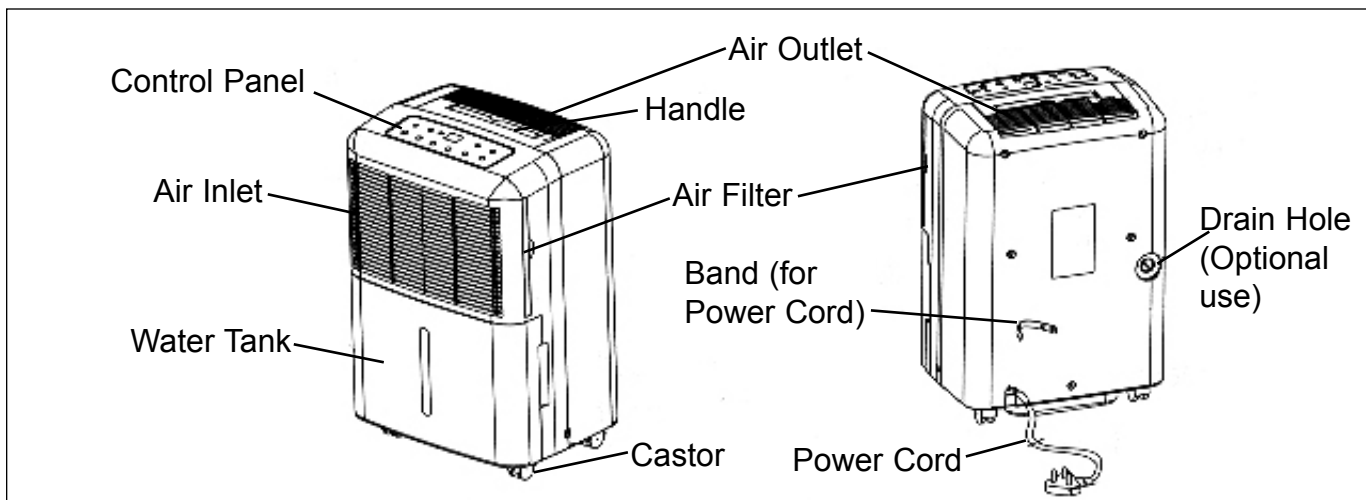
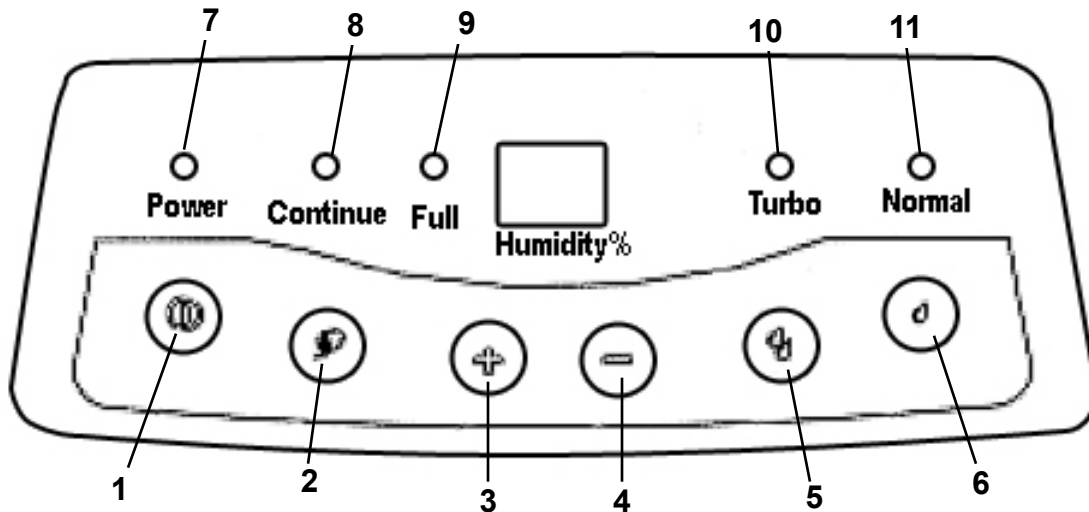

Figure 2: TT-40P-DH Product Description
Figure 3: Control Panel
dehumidifying mode with the factory setting of 60% relative humidity (RH). Pressing the Humidity + or - Button will change the humidity setting (see Figure 3 on Page 4).
1. Water will drain into the Water Tank (shown in Figure 2). When the tank is full and the unit stops operating, the Full Indicator will flash (see Figure 3).
1. On the rear on the unit, carefully remove the rubber plug from the drain hole (see Figure 2 on page 3) and slide the drain hose into the drain hole.